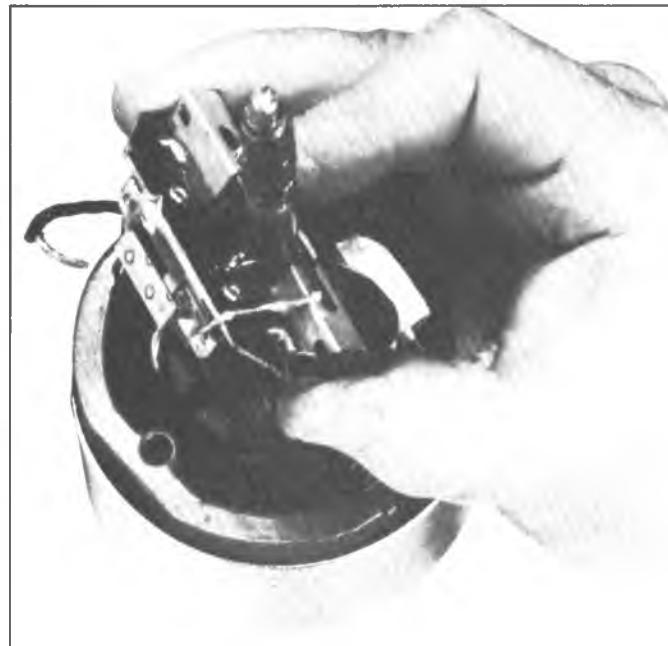

Fig. 31--Removing Brush Holder
7. Holding the opposite brush from that retained in Step 6, carefully lift the brush holder off the mounting tabs far enough to clear the armature commutator (fig. 31).